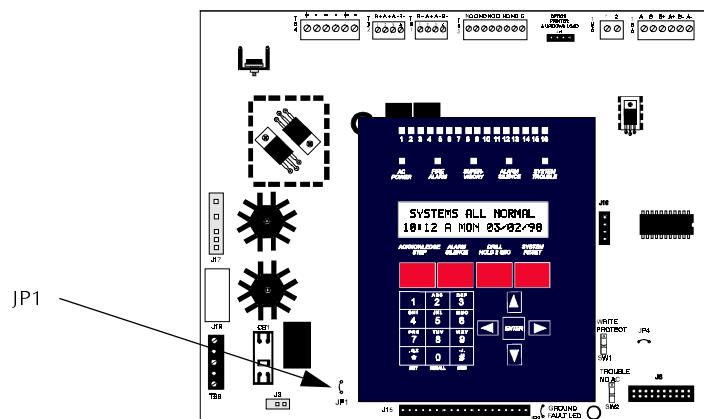

Figure 3 Main Circuit Board
- Ground Fault (yellow) – located on the bottom of the main circuit board (refer to Figure 3 on page 14)
Wire the CHG-120 to the AFP-100 as shown. You must disable the main circuit board battery charger when using the CHG-120. Do so by cutting jumper JP1 as shown in Figure 3 on page 14.